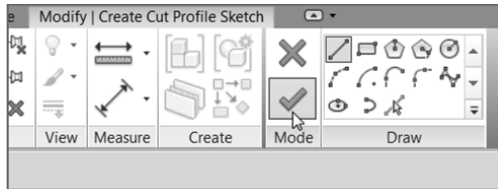
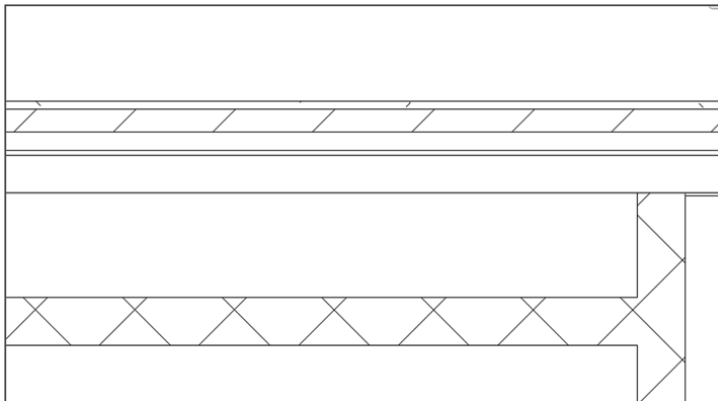

FIGURE 2.63: Clicking Finish Edit Mode finalizes the session and completes the command.
FIGURE 2.64: The finished wall with the drywall deduced from the core of the chase
9. What you see here is called Sketch Mode. Because you've finished sketching the cut profile, click Finish Edit Mode, as you can see in Figure 2.63. Figure 2.64 shows the final result.